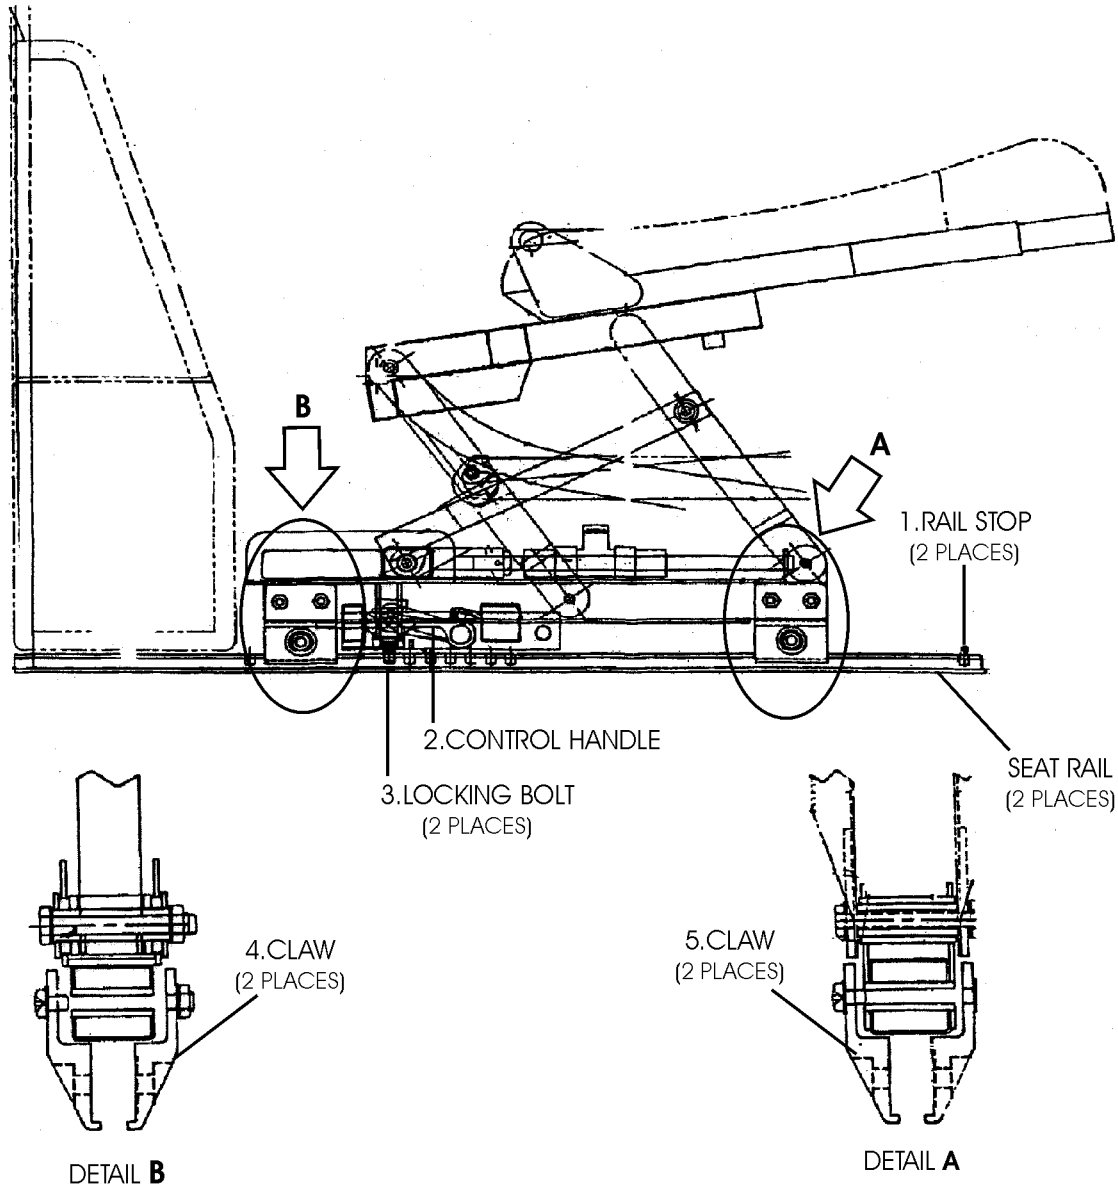

Fig. 201 - Pilot and Copilot Seat - Removal/Installation
2. Pilot/Copilot Seat - Removal (Ref. to Fig. 201)
3. Pilot/Copilot Seat - Installation (Ref. to Fig. 201)